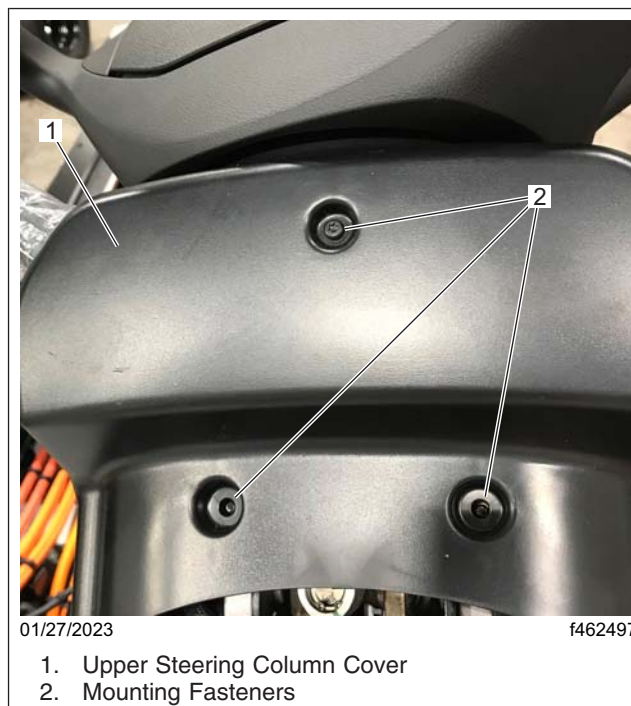

Fig. 1, Upper Steering Column Cover Removal
4. Remove the three fasteners that attach the upper steering column cover to the steering column. See Fig. 1.